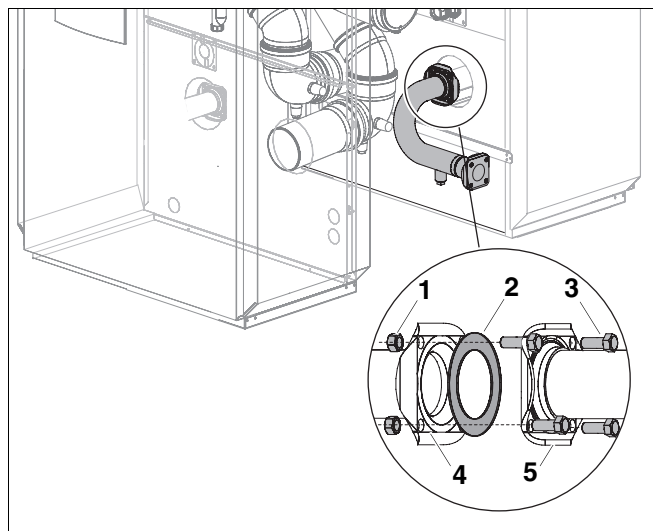

Fig. 9 Fitting the return connection to the first boiler
- Place gasket (Fig. 9, **Item 2**) on the boiler return.
- Screw return piece flange by hand (Fig. 9, **Item 5**) onto the return flange (Fig. 9, **Item 4**) on the boiler, using four bolts (Fig. 9, **Item 3**) and nuts (Fig. 9, **Item 1**).